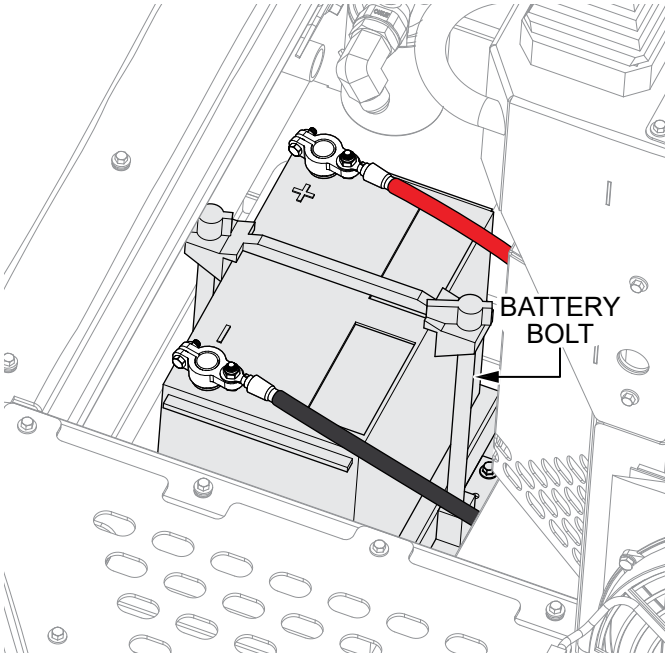

Figure 13. Battery Connection
1. Make sure the battery is well secured in the battery tray with the two **battery bolts** (Figure 13).
2. Connect the positive (**RED**) battery cable to the positive (+) terminal on the battery, then connect the negative (**BLACK**) battery cable to the negative (-) terminal. See Figure 13.